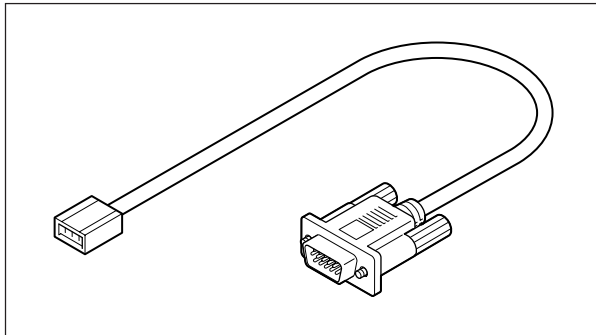

Fig. 3 Connector Cable
* Cable: D-Sub 9-pin female connector - 3-pin female connector (Fig. 3)